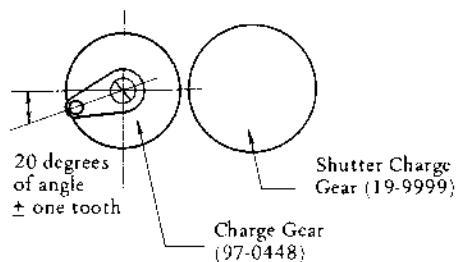

Fig. 8
- 2) Set Charge Gear (97-0448) at the position 20 degrees ± one tooth in Fig. 8.